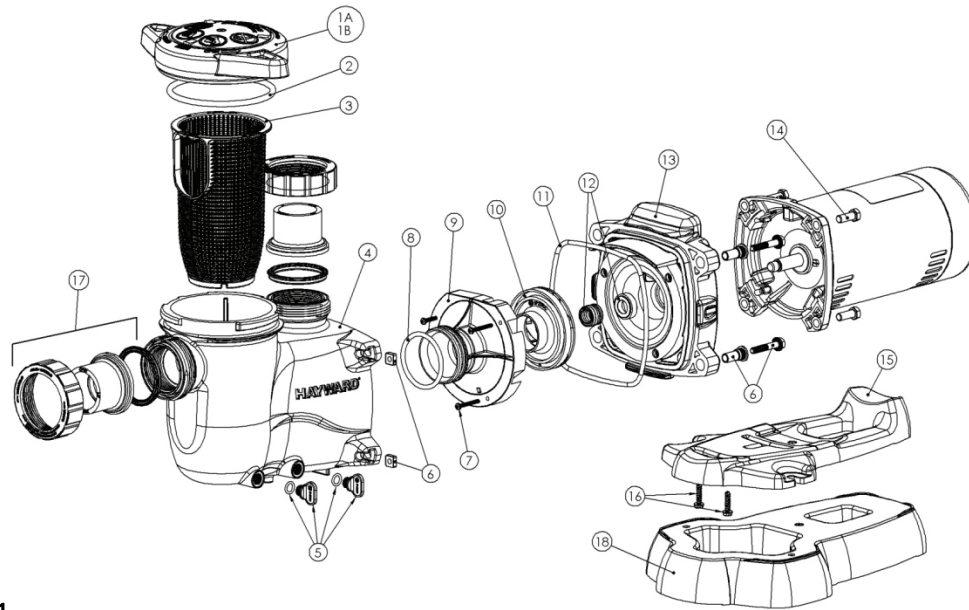

Figure 8.1-1
- See “Parts Diagram” Figure 8.1-1 for pump component locations.